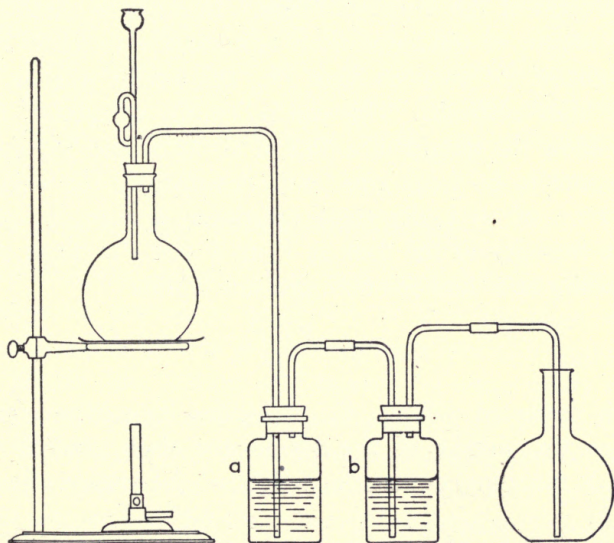

FIG. 12.
63. Apparatus. Clean, dry flask of about 500 cc. capacity, with tightly fitting cork; thermometer; balance; chlorine generator as shown in Fig. 12, fitted with wash bottle *a* containing H_2O and drying bottle *b* containing concentrated H_2SO_4 .
Procedure. Carefully weigh the clean, perfectly dry flask and cork (W). Generate chlorine in the apparatus shown in Fig. 12, by means of MnO_2 and concentrated HCl . Let the chlorine gas run into the previously weighed flask until all air is displaced, i.e., until the